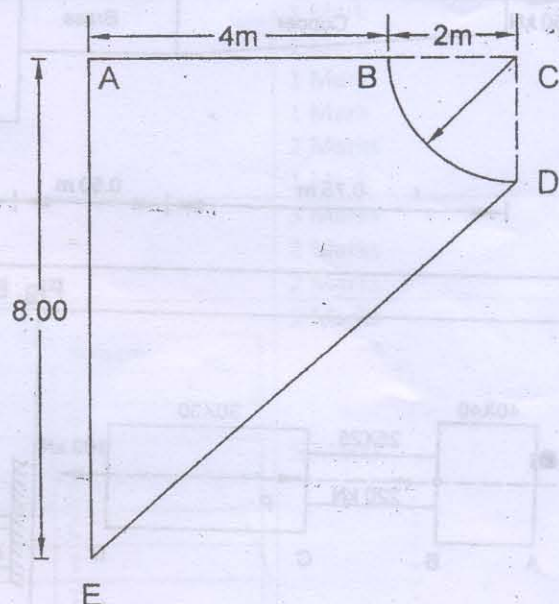

Fig. 4
- Que. 2.b Determine the centroid of the plane lamina shown in Fig.4 with respect to point E. 07